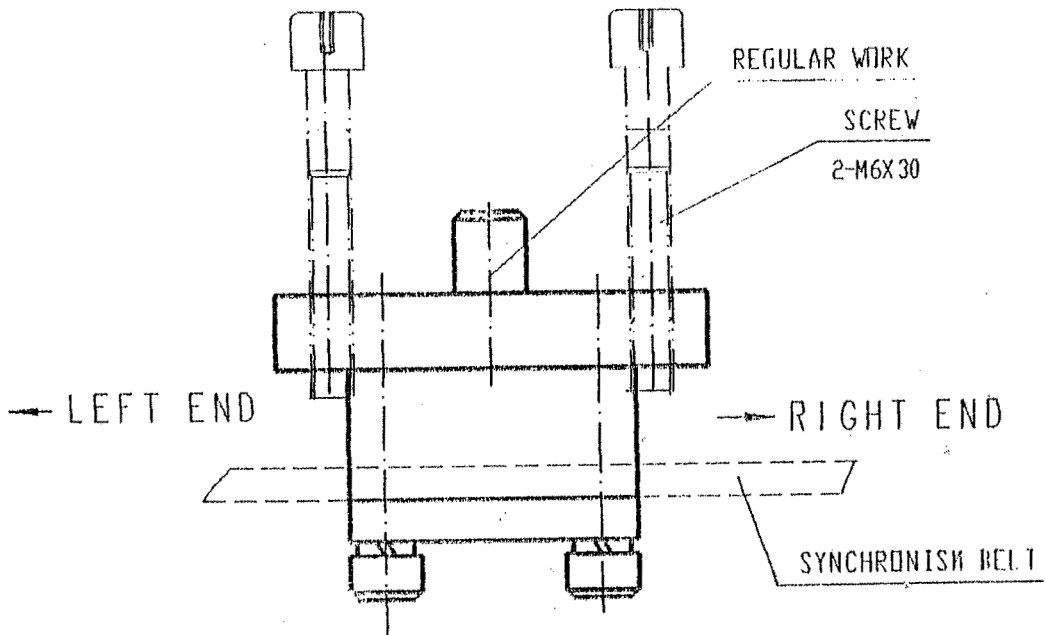

Fig. 2c
- 3.3.2 Tightening the bolts for fixing the fix block with working table. (See fig.2c)